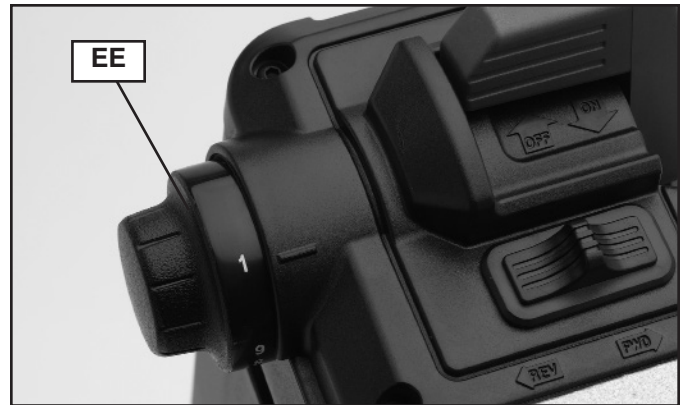

Fig. 20
Once you select a speed range (as described above in **Changing Pulleys** section), use the speed control knob (EE) Fig. 20 to vary the speed within that range. As you face the lathe, turn knob forwards (towards you) to increase speed, turn it backwards (or away from you) to decrease speed.